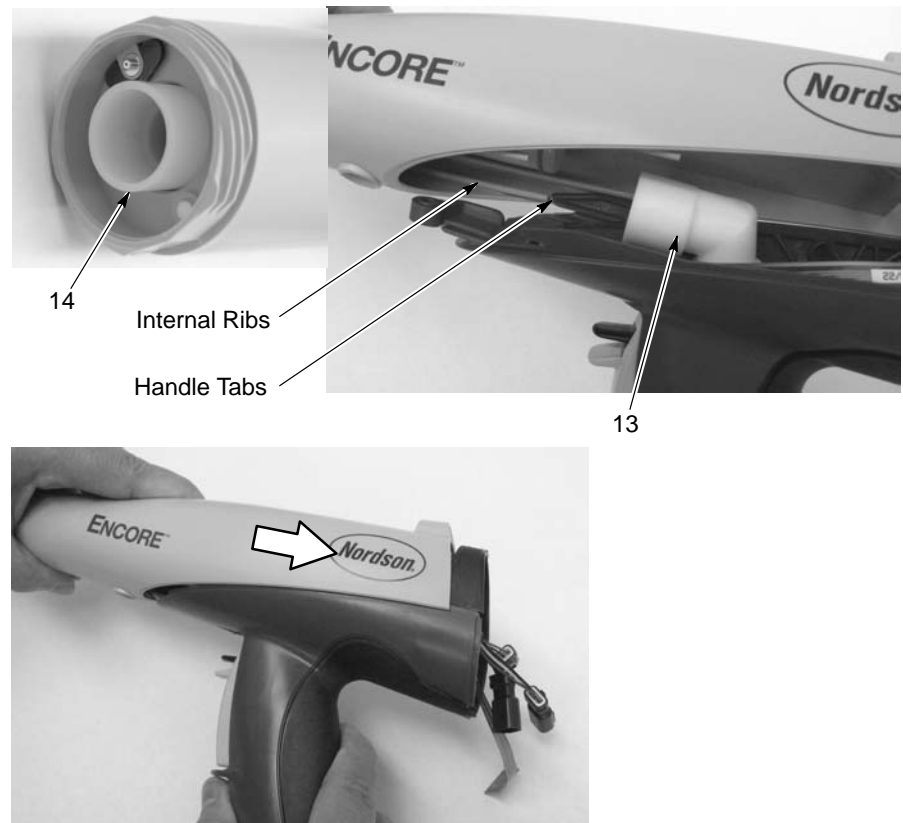

Figure 5-15 Outlet Powder Tube Installation
17. See Figure 5-15. Insert the outlet tube (14) with O-rings installed through the front of the gun body until the end is even with the end of the gun body.
18. Make sure the O-ring is installed in the groove on the inlet powder tube. Install the elbow (13) onto the end of the inlet tube.